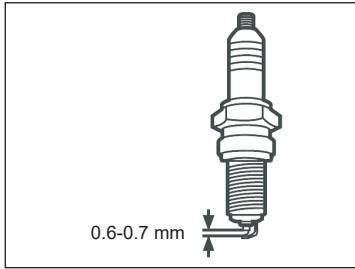

Fig. 29
7. Check the spark plug gap; it should be 0.6 – 0.7 mm (Fig. 29).
8. Replace with a new spark plug (18) if either the electrode or the insulation is damaged.
9. When replacing the spark plug (18) first screw it in hand tight and then lightly tighten it with the multi tool (24).